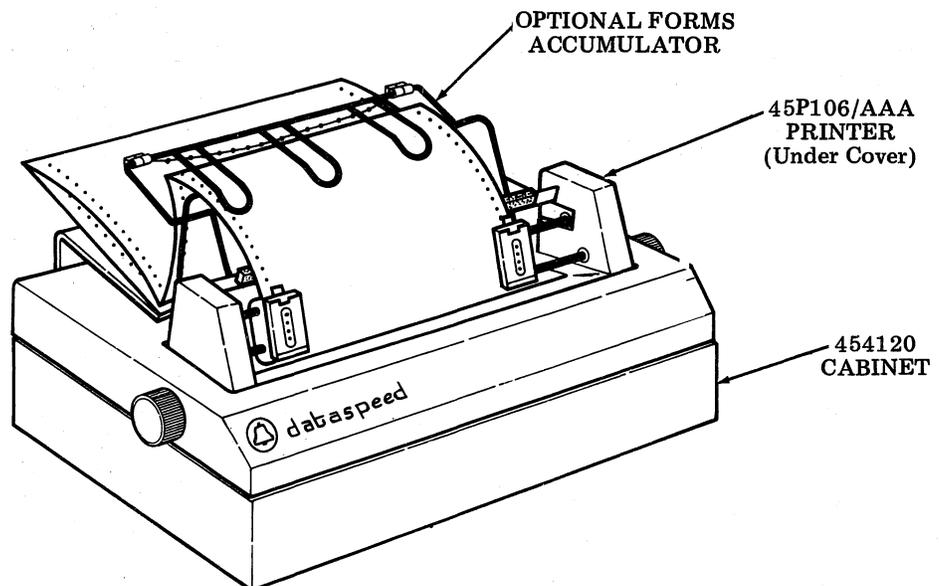

Fig. 1—DATASPEED AP25
1.05 The printer is furnished fully assembled and tested ready to install in its housing and then connect to an SSI cable coming from a station controller. See Fig. 1.